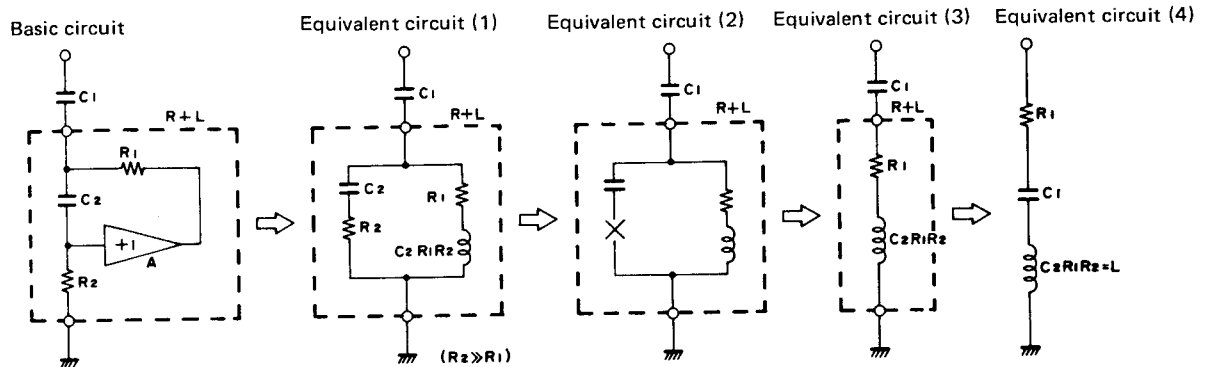
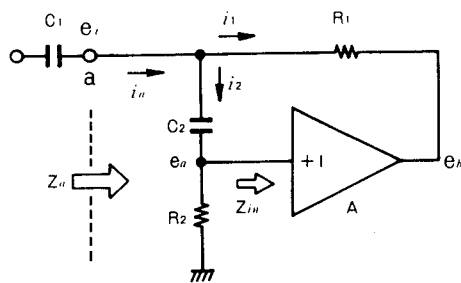

Fig. 13 Process of analyzing the semiconductor inductance circuit
Fig. 14 Semiconductor-inductor equivalent circuit
Fig. 13 illustrates the process of analyzing the semiconductor-inductor employed in the SEA-80 from the basic to the grounded series resonance circuit.
Fig. 14 shows a more detailed analysis of the "R + L" part enclosed by the dotted in Fig. 13.
Since A in Fig. 14 is a buffer amplifier having a gain of 1, resulting in  $e_a = e_b$ , and  $e_a$  is a voltage divided by  $C_2$  and  $R_2$ .
The condition  $R_2 \gg R_1$  should be satisfied when the equivalent circuit (1) is transformed into (2) in Fig. 13. However, in practice, it is impossible to make  $R_2$  infinite and certain circuit technique is employed for practical use in order to eliminate the effect of  $R_2$ .